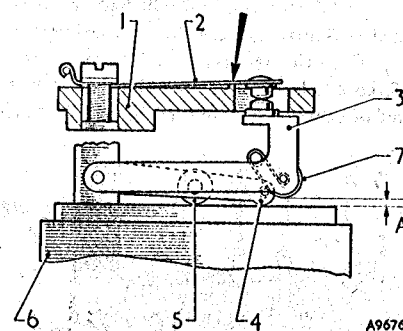

Fig. 12. The contact gap setting on earlier-type rocker assemblies
23. Check the gap between rocker finger and coil housing (B) (Fig. 12) with a feeler gauge, bending the stop-finger, if necessary, to obtain a gap of  $.070 \pm .005$  in. ( $1.8 \pm .13$  mm.).
without pressing against the tip (see Fig. 12). Then check if a  $.030$  in. ( $.8$  mm.) feeler will pass between the fibre rollers and the face of the coil housing. If necessary the tip of the blade can be set to correct the gap.